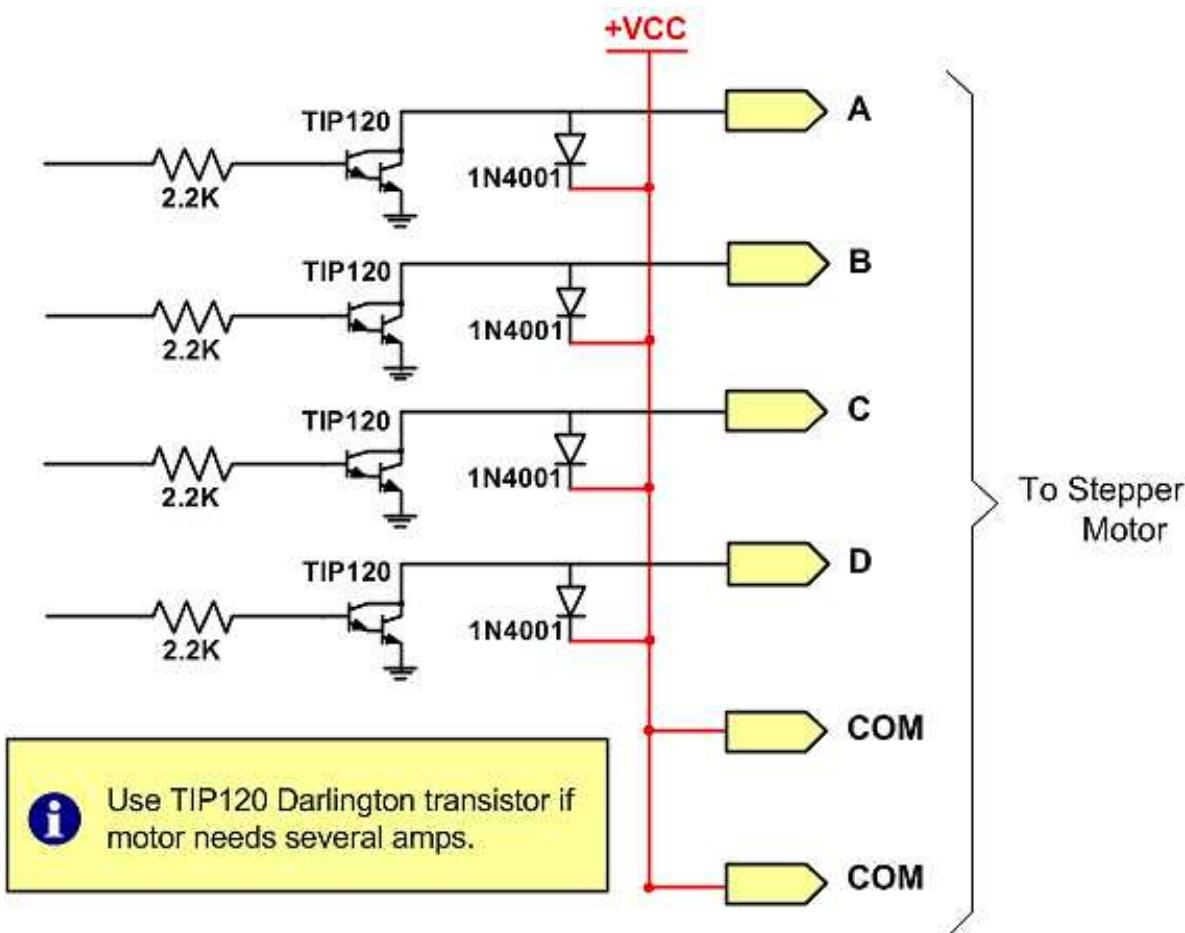

Figure 14-11: Using Transistors for Stepper Motor Driver
3. The four leads of the stator winding are controlled by four bits of the ARM port (PA0–PA3). Because the microcontroller lacks sufficient current to drive the stepper motor windings, we must use a driver such as the ULN2003 (or ULN2803) to energize the stator. Instead of the ULN2003, we could have used transistors as drivers, as shown in Figure 14-11. However, notice that if transistors are used as drivers, we must also use diodes to take care of inductive current generated when the coil is turned off. One reason that using the ULN2003 is preferable to the use of transistors as drivers is that the ULN2003 has an internal diode to take care of back EMF.
Unipolar stepper motors can be controlled using the basic interfacing shown in Figure 14-11, whereas the bipolar stepper requires H-Bridge circuitry. Bipolar stepper motors require a higher operational current than the unipolar; the advantage of this is a higher holding torque.
Figure 14-11 shows an interface to a unipolar stepper motor using transistors. Diodes are used to reduce the back EMF spike created when the coils are energized and de-energized, similar to the electromechanical relays discussed earlier. TIP transistors can be used to supply higher current to the motor. Table 14-8 lists the common industrial Darlington transistors. These transistors can accommodate higher voltages and currents.